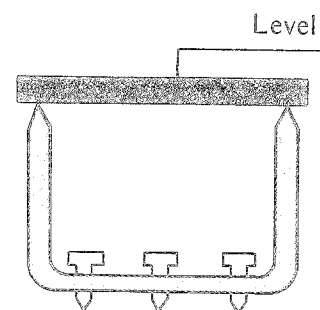

Fig 3
1. Adjust the balancing stand level (Fig 3).
- * When you dress the grinding wheel, you have to start from the middle because grinding wheel usually wear more on two sides than in the middle. If you dress from two sides to middle, then, it will produce pressure. (fig 3)
(Fig. 3)